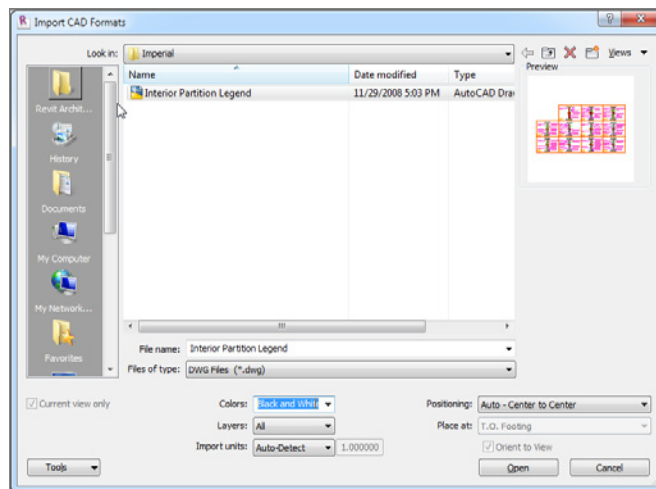

FIGURE 11.55: The Import CAD Formats dialog. Be deliberate when importing a CAD file by choosing the options at the bottom of the dialog.
- At the bottom of the Import CAD Formats dialog, notice that you have a few choices (see Figure 11.55):